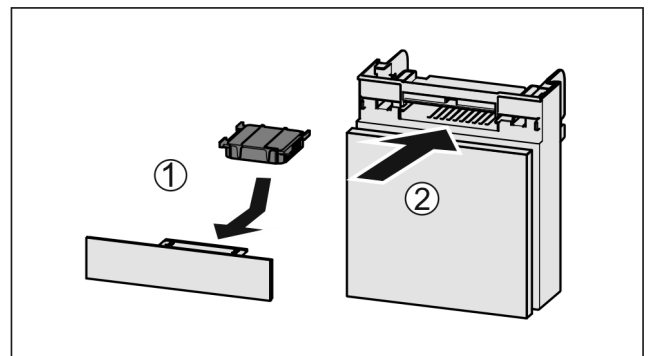

Fig. 116
- ▶ Insert the carbon filter as shown in the diagram Fig. 116 (1).
- ▶ Push the compartment in *Fig. 116 (2)*.